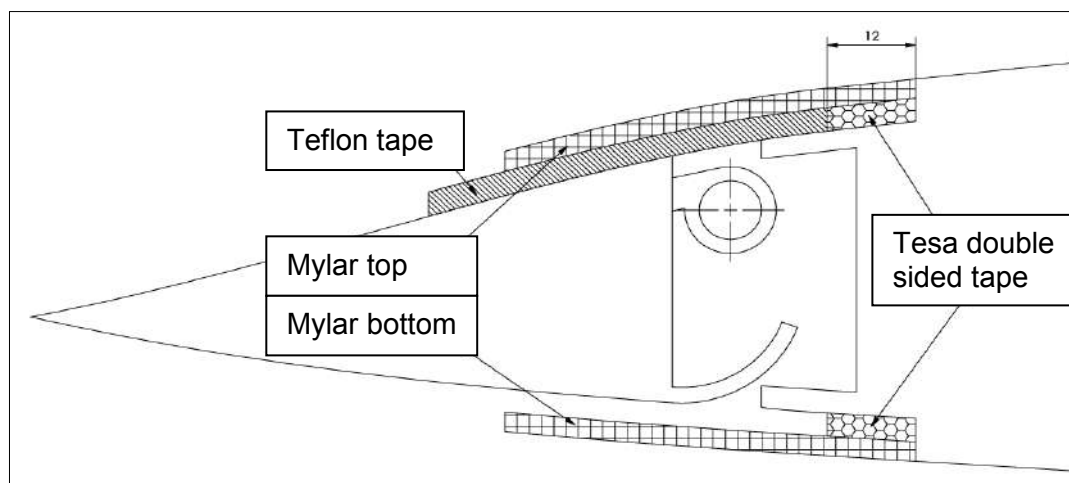

Figure 55-4: Mylar, double-sided tape and Teflon tape on tail plane
5. Apply double-sided adhesive tape on the top Mylar recess (Figure 55-4).
6. Deflect the elevators fully downward, and then apply Teflon tape along the edge of the double-sided tape (Figure 55-4).
9. Apply Mylar to the top skin of the tail plane (Figure 55-4).
10. Apply double-sided tape and Mylar to the bottom skin (Figure 55-4).